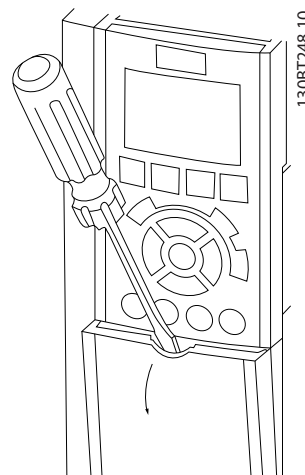

Figure 2.9 Control Wiring Access for A2, A3, B3, B4, C3 and C4 Enclosures
- Remove access cover plate with a screw driver. See Figure 2.9.